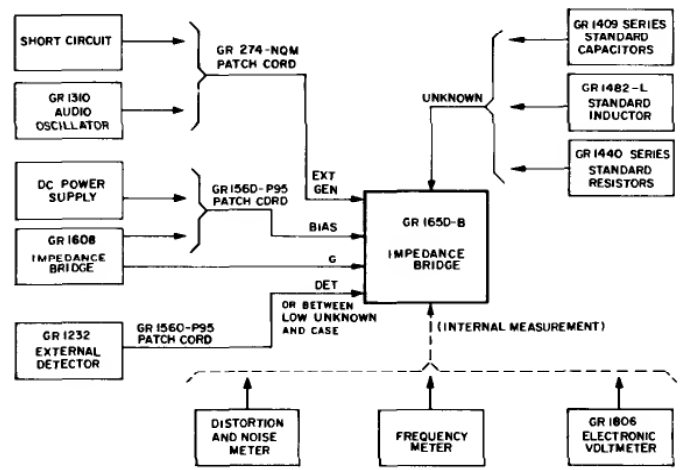

Figure 6-1. Test setup for service and maintenance of 1650-B.
The eighteen checks listed in Table 6-1 are given so that it can be determined that the instrument is in proper working condition (1) on receipt of a new bridge, (2) after a period of non-use, or (3) after repairs have been made to the bridge. If any specifications (READ column) are not met, refer to paragraph 6.4. Table 6-2 lists the recommended test equipment for these checks plus the equipment needed for the calibration procedures given later. Figure 6-1 shows the equipment connected in a block diagram form.